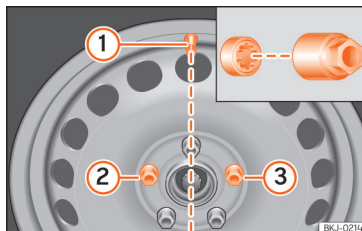

Fig. 241 Tyre change: tyre valve ① and the correct position for the anti-theft wheel locking bolt ② or ③.
On wheels with integral hubcaps, the anti-theft wheel locking bolt must be screwed in the positions »» Fig. 241 ② or ③, taking as reference the position of the tyre valve ①. Otherwise it will not be possible to mount the hubcap.